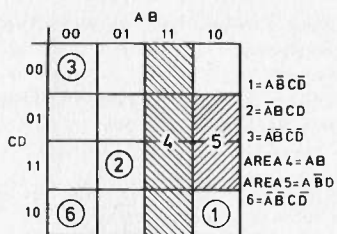

Fig. 1.8b. Allocation of squares
This notation extends to cover all areas and squares in the map; each square has its own unique set of variable conditions. Hence, in Fig. 1.8b, the square number (1) is vertically in the column  $A = 1$ ,  $B = 0$ , i.e. the column  $A\bar{B}$ , and horizontally in the row  $C = 1$ ,  $D = 0$ , i.e. the row  $C\bar{D}$ . Hence, square (1) is  $A\bar{B}C\bar{D}$ .
in Fig. 1.8b is actually adjacent to square (6); again, they only differ by one change of state.